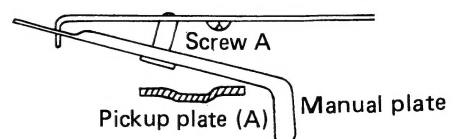

Figure 9.
- 2) When loosening screw A (See Figure 9) for replacing the Plate refer to the following adjustment.